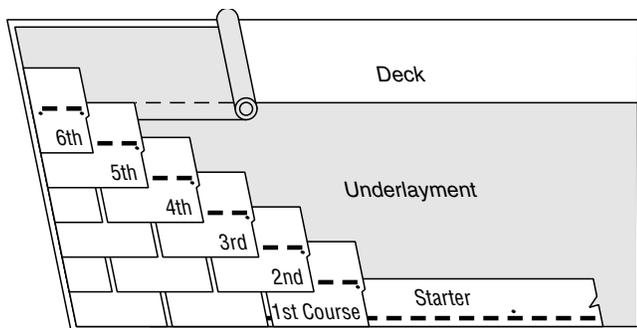

Figure 10-16: Half-Tab Method.
- Continue with full-length starter-strip shingles along the eaves. (*Figure 10-16*).
1ST COURSE: Apply a full shingle at the lower left corner of the roof, tabs flush with the starter course (*Figure 10-16*).
2ND COURSE: Cut 6 9/16" (half of a tab) off the left end of a shingle and apply the remaining piece over the first-course shingle, flush with the left edge and exposing the first course 5 5/8" (*Figure 10-16*).
3RD THROUGH 6TH COURSES: Each succeeding course, up to and including the sixth course, should start with a shingle one-half of a tab (6 9/16") shorter (cut-off from the left end) than the previous course (*Figure 10-16*). Expose each course 5 5/8".